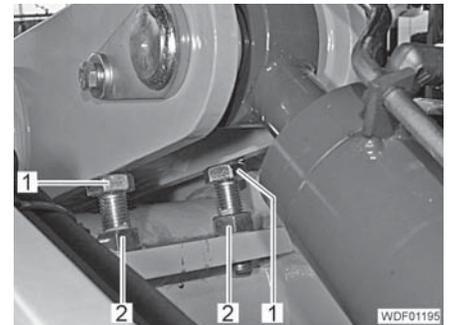

Fig. 43 Dumping stop
- Undo the 2 nuts (Fig. 43,2).
- Unscrew the 2 stop bolts (Fig. 43,1) until the head of the bolt just touches the reversing lever.